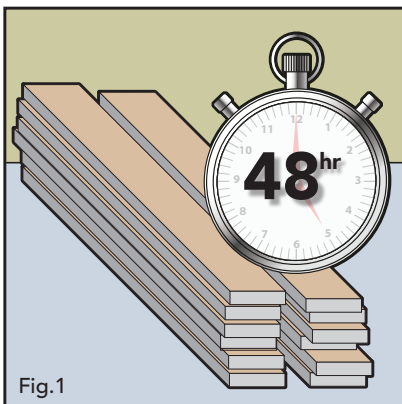

Fig.1
- Stack boxes no more than eight cartons high in areas to receive new flooring (remove plastic from outside of boxes if present). Ensure each layer is evenly supported to prevent distortion. Elevate stack using 2 x 4's as illustrated in Fig. 1 above. On concrete; place a layer of 6 mil poly down first during the acclimation process.